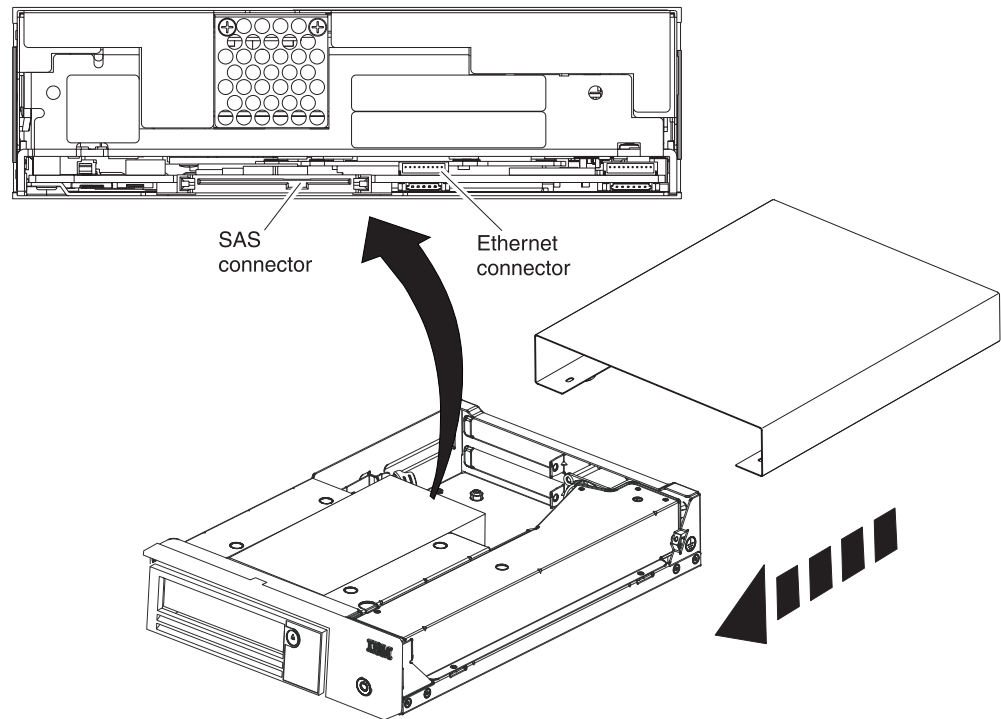

Figure 24. Removing cables from the internal drive
6. Gently push on the rear panel of the drive to remove the chassis from the cover (see Figure 24 on page 75).
1. Disconnect the SAS interface cable and the Ethernet interface cable (see Figure 24) from the drive. Disconnecting the internal SAS interface cable disconnects both the SAS interface and electrical power from the drive.